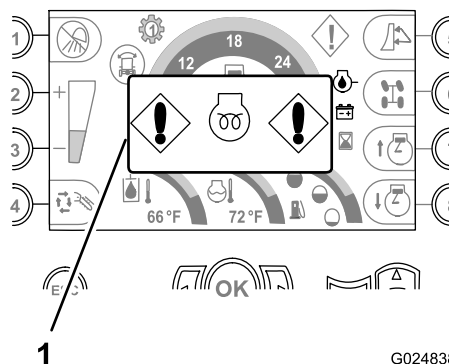

Figure 34
- **Wait-to-start-engine indicator**—This indicator displays when the key switch is in the On position and the intake air heater for the engine is energized (Figure 34).
Note: Wait until the indicator no longer appears before attempting to start the engine (Figure 34).